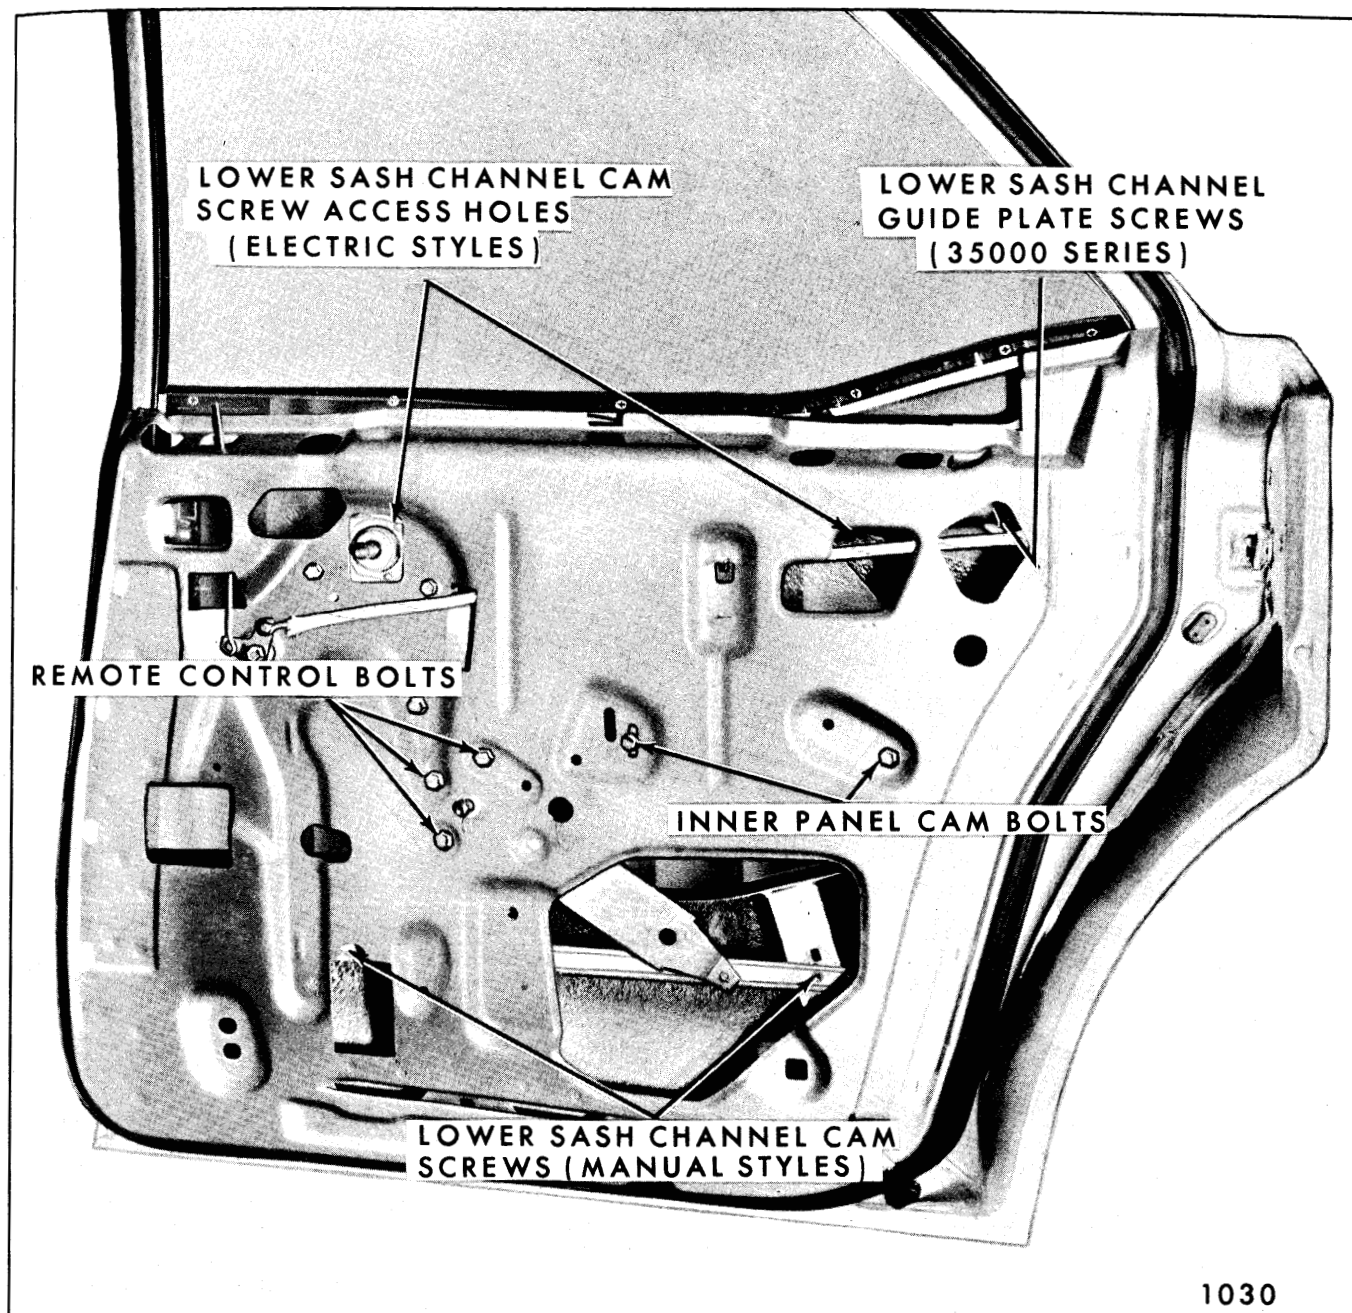
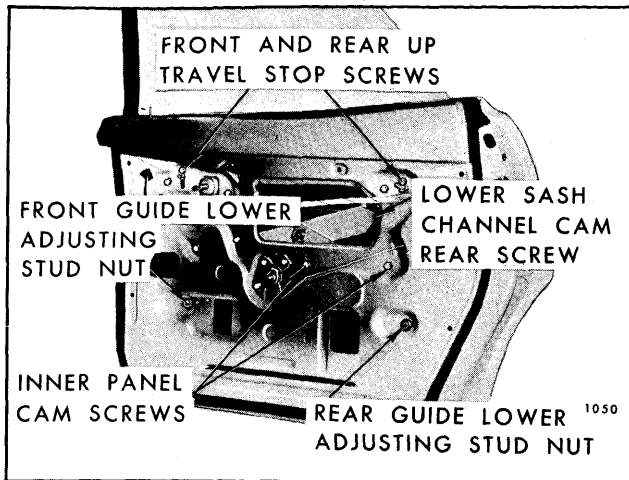

Fig. 7-125—Rear Door Hardware Attachment - "B" Styles Shown - "A" Styles Similar
Fig. 7-126—Rear Door Hardware - "Z-39" Styles
2. Remove inner panel cam attaching bolts (Fig. 7-125). Disengage cam from regulator balance arm roller and remove cam from door.
2. Depending on body style and power options, operate window to position specified in Figure 7-125 for "A-B & C" Styles and Figures 7-126 and 7-127 for "Z" Styles.
3. Remove screws securing glass run channel outer strip assembly to door outer panel return flange (Fig. 7-125) and remove strip assembly.
2. On 35000 Series "69" Styles, lower window approximately 3" down from full-up position. Remove lower sash channel rear guide plate attaching screws through upper rear access hole and remove guide plate (Fig. 7-125).
3. Operate window to position shown in Figure 7-125 and remove lower sash channel attaching screws (window slightly down on electric styles and full down on manual).